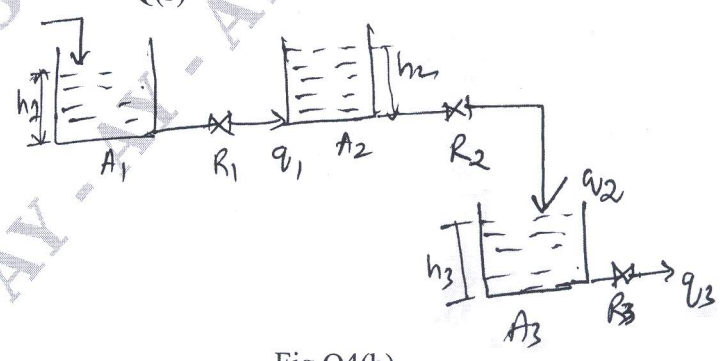

Fig.Q4(b)
- b. Find the transfer function  $\frac{H_3(s)}{Q(s)}$  for the following system shown in Fig.Q4(b).